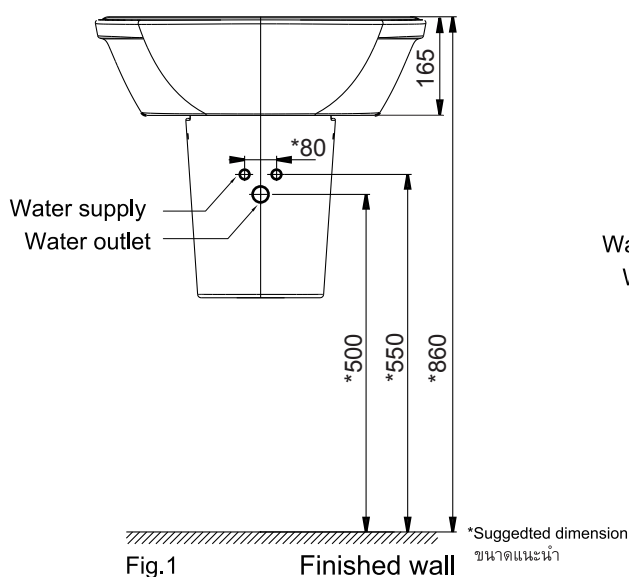

Fig.1
- Fig.1 for installing with semi-pedestal